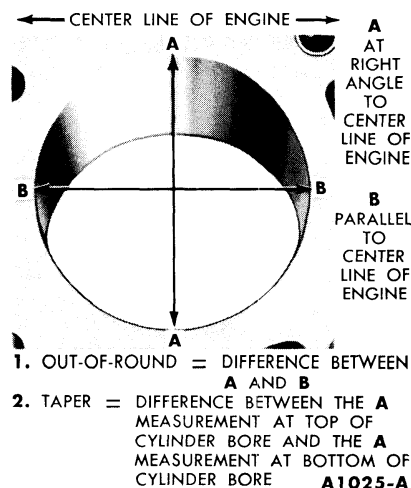

FIG. 30—Cylinder Bore Out-of-Round and Taper
1. Calculate the size piston to be used by taking a cylinder bore check (Fig. 30).
Inspect the cylinder walls for scoring, roughness, or other signs of wear. Check the cylinder bore for out-of-round and taper. Measure the bore with an accurate gauge following the instructions of the manufacturer. Measure the diameter of each cylinder bore at the top, middle, and bottom with the gauge placed at right angles and parallel to the centerline of the engine (Fig. 30).